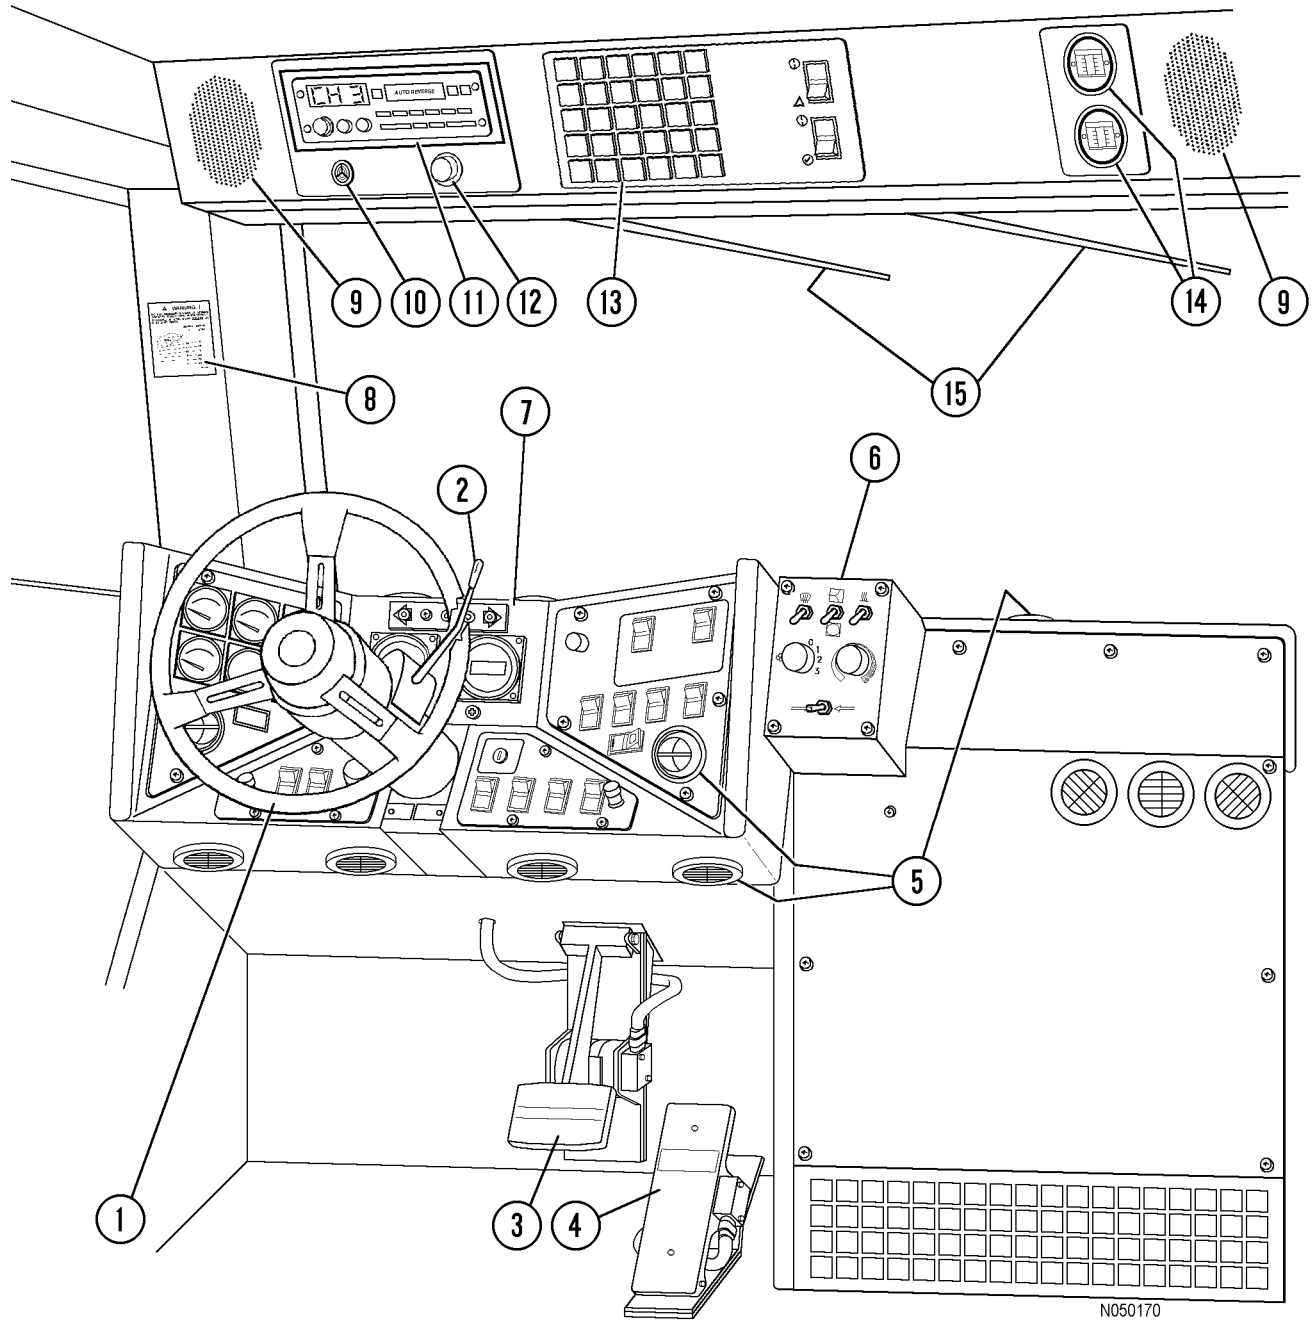

FIGURE 32-1. CAB INTERIOR - OPERATOR VIEW
Dynamic retarder/service brake pedal (3, Figure 32-1) is a single, foot-operated pedal that controls both retarding and service brake functions. The first portion of pedal travel commands retarding effort through a rotary potentiometer. The second portion of pedal travel modulates service brake pressure directly through a hydraulic valve. Thus, the operator must first apply, and maintain, full dynamic retarding in order to apply the service brakes. Releasing the pedal returns brake and retarder to the OFF position.
The accelerator (throttle) pedal (4, Figure 32-1) is a foot-operated pedal which allows the operator to control engine rpm, depending on pedal depression.
Grade/speed retard chart (8, Figure 32-1 & shown below) provides the recommended **MAXIMUM** retarding limits at various truck speeds and grades with a fully loaded truck.
Instrument panel (7, Figure 32-1) includes a wide variety of switches, gauges, and indicators. Refer to Instrument Panel and Indicator Lights, in this chapter for a detailed description of function and location of these components.
The items listed below are located on the overhead panel. Refer to Figure 32-1 for the location of each item. A brief description of each component is documented below.
Radio speakers (9, Figure 32-1) for the AM/FM Stereo radio are located at the far left and right of the overhead panel.
Warning alarm buzzer (10, Figure 32-1) will sound when activated by any one of several truck functions. Refer to Instrument Panel and Indicator Lights, in this chapter for a detailed description of functions and indicators that will activate this alarm.
This panel will normally contain AM/FM Stereo radio (11, Figure 32-1). Refer to Section 70 for a more complete description of the radio and its functions. Individual customers may use this area for other purposes, such as a two-way communications radio.
Dimmer control (12, Figure 32-1) permits the operator to adjust the brightness of warning indicator lights (13).
Windshield wipers (15, Figure 32-1) are powered by an electric motor. Refer to Instrument Panel and Indicator Lights, in this chapter for a location and description of the windshield wiper and washer controls.
Panel (13, Figure 32-1) contains an array of indicator lights to provide the operator with important status messages concerning selected truck functions. Refer to Instrument Panel and Indicator Lights, in this chapter for a detailed description of these indicators.
Air cleaner vacuum gauges (14, Figure 32-1) provide a continuous reading of maximum air cleaner restriction reached during operation. The air cleaner(s) should be serviced when the gauge(s) shows the following maximum recommended restriction: